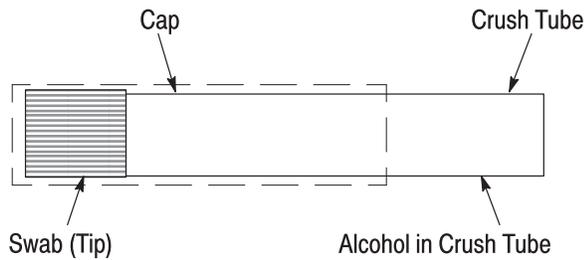

Figure 1
These instructions describe several methods of cleaning MT-Style Ferrules including the use of Crush Tube Swab 492580-1. See Figure 1, and commercially available items such as TEXWIPE† TechniCloth TX604 Wipers and TEXWIPE TX758B Swab.
2. DESCRIPTION (Figure 1)